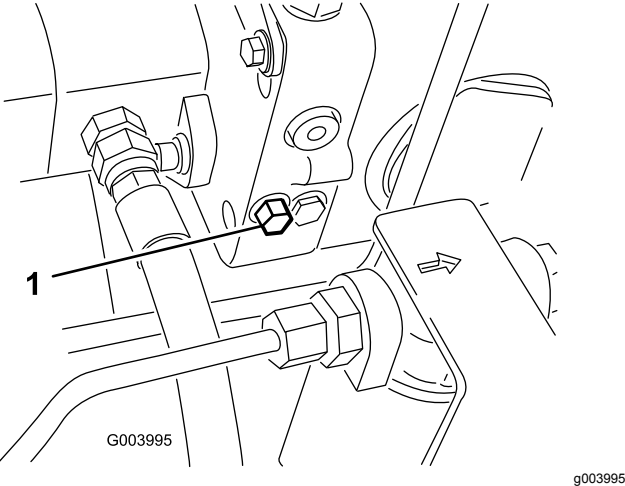

Figure 75
1. Rotate the bypass-valve bolt 1-1/2 turns to open and allow oil to bypass internally (Figure 75).